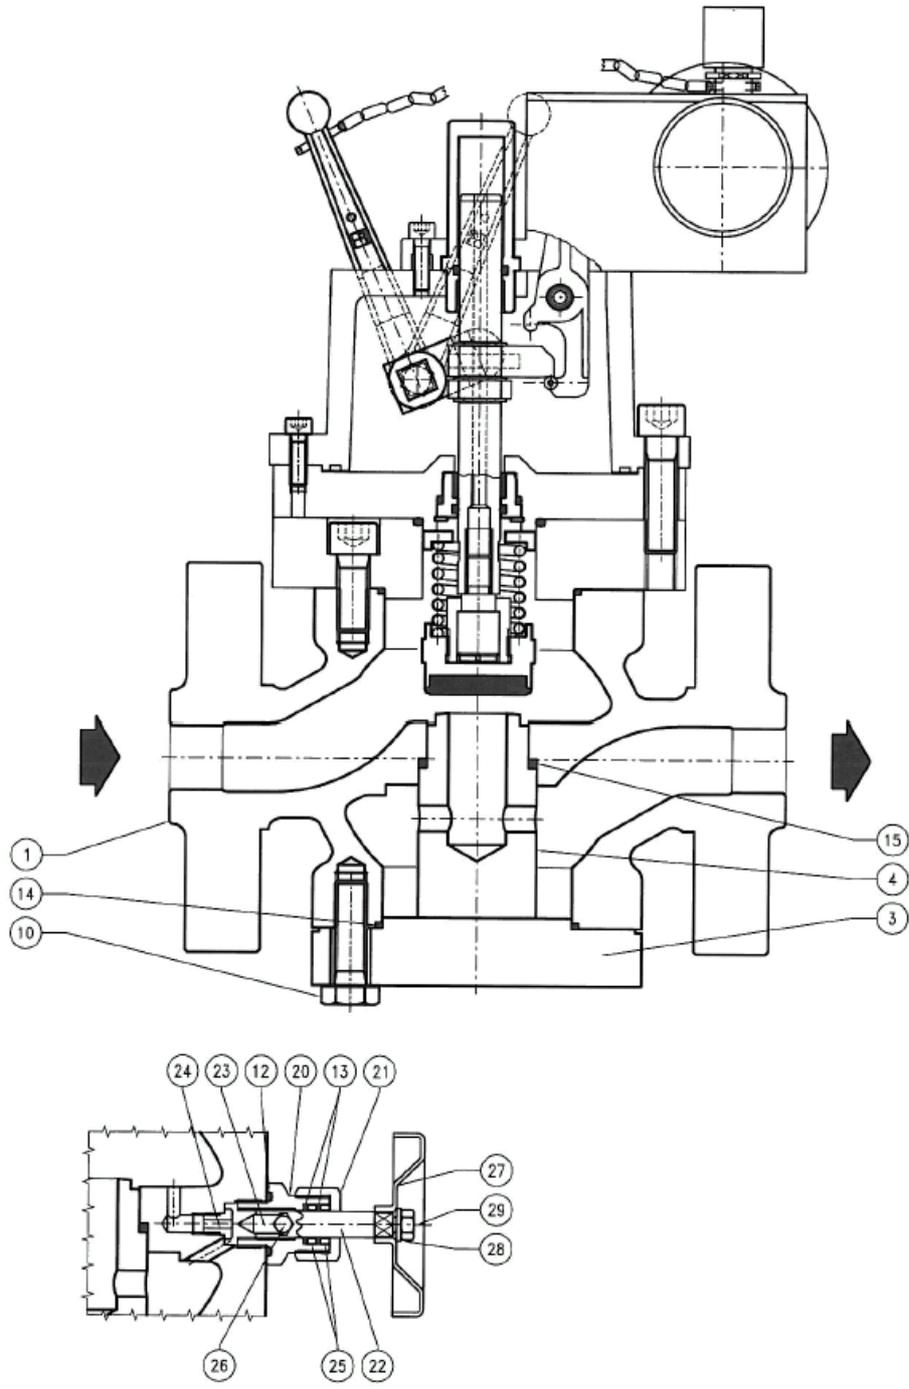
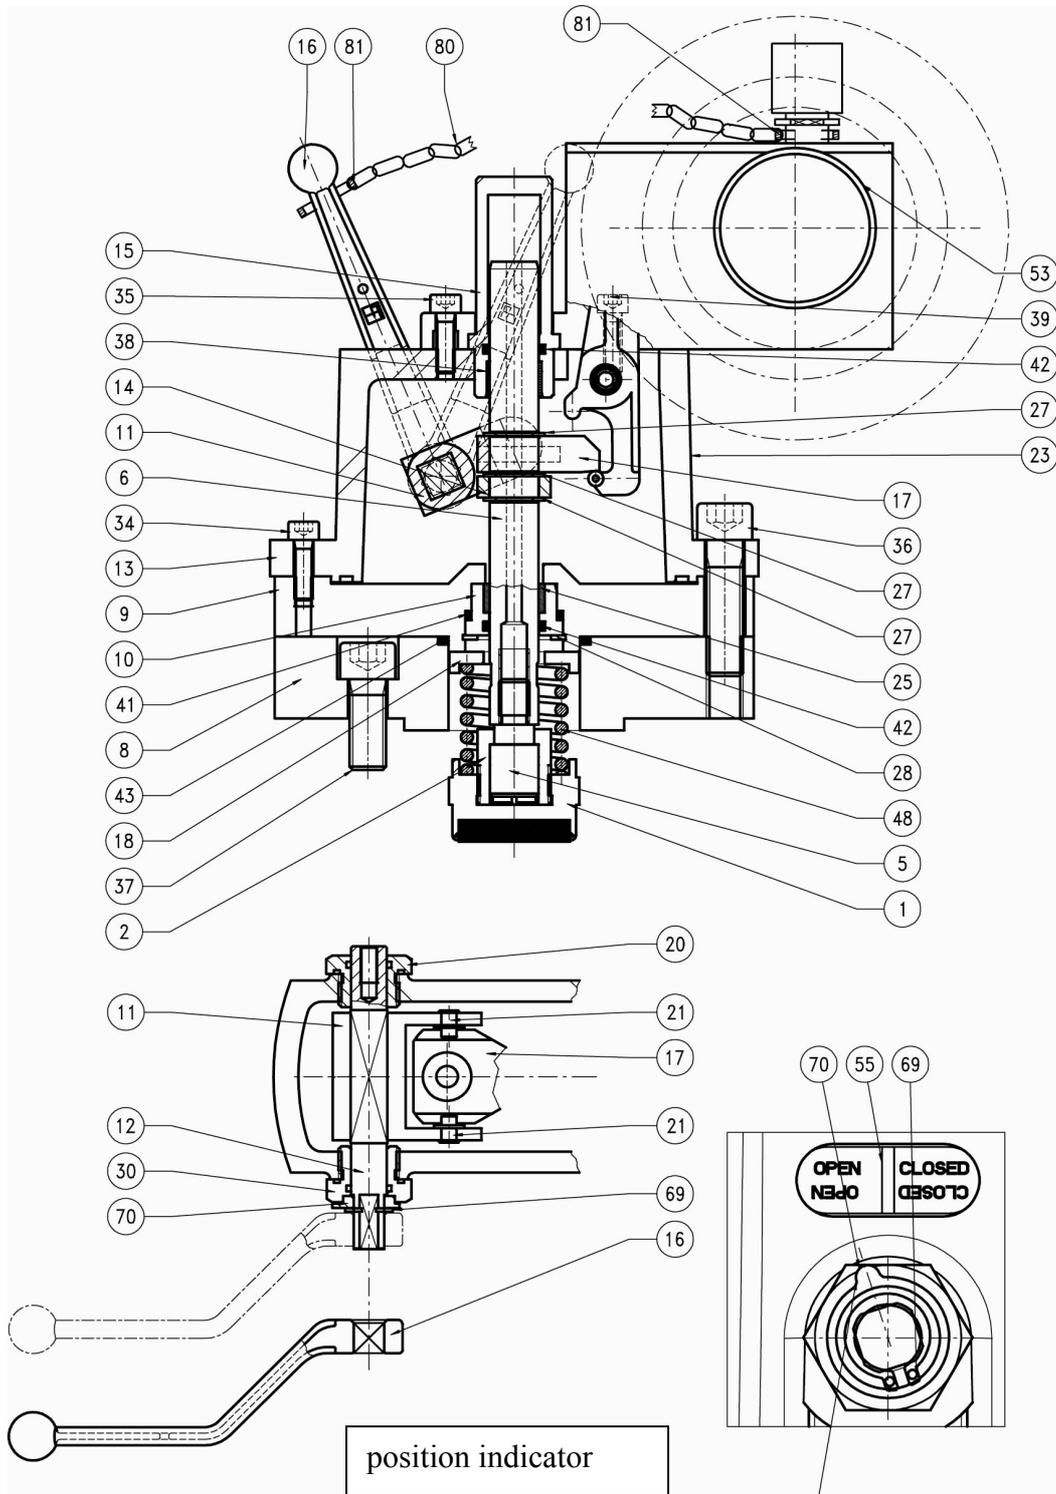

FIG. 12
Fig. 13
O-ring (pos. 15 fig. 13) of the obturator gasket (pos. 1 fig. 12) worn	Replacement
Valve seat (Pos. 4 Fig. 12) eroded or scratched	Cleaning / Replacement
It is suggested to replace all rubber parts; for this purpose, use the suitable spare part kit as highlighted in Fig. 12, 13, 14.
- 3) Loosen the tightening screws pos. 36 (fig. 13) and separate the device from the flange (pos. 8).
- 5) Unscrew and remove the reinforced gasket pos. 1 (fig. 13) from the blocking fitting pos. 2.
- 6) Remove the spring from pos. 48 and the spring support pos. 18.
- 7) Remove the elastic ring pos. 28 and the bushing pos. 10.
- 8) Loosen the tightening screws pos. 10 and remove the hollow flange pos. 3 (Fig. 12).
- 9) Remove the valve seat pos. 4 (Fig. 12).
- 10) Remove the tightening screws pos. 35 from the pressure switch (Fig. 13).
Once again, pay utmost care while handling the valve seat pos. 4 (Fig. 12) in order not to damage the sealing edges.